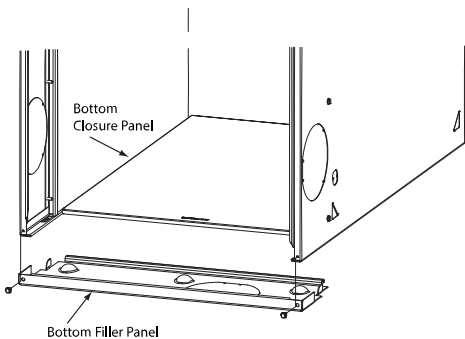

Fig. 9 – Removing Bottom Closure Panel
- Tilt or raise furnace and remove two screws holding bottom filler panel see Fig. 9.
1. Tilt or raise furnace and remove two screws holding bottom filler panel, see Fig. 9.